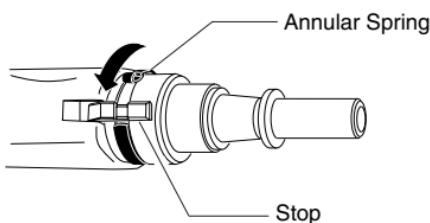

**Figure 24 - Inserting Barrel Assembly into Outer Liner Assembly**
4. Firmly insert barrel into outer liner assembly with slot side down (see Figure 24).